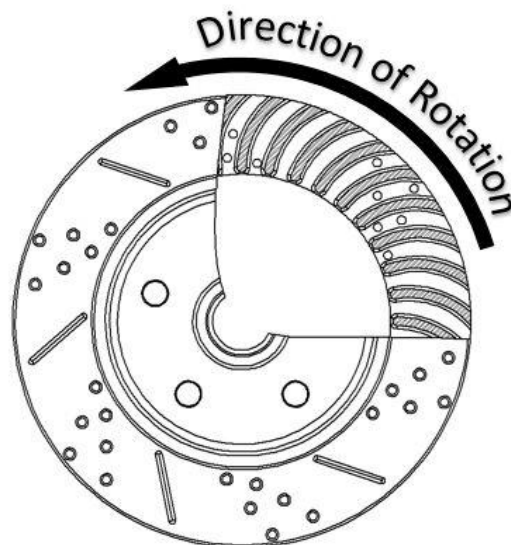

Figure 3 – Direction of Rotor Rotation
8. Install the bracket/park brake assembly using the original bolts that secured your original drum brake backing plate. The park brake assemblies are left and right specific. The driver side (LH) carries a part number engraved beginning with the numbers 671. The passenger side (RH) begins with the numbers 672. The park shoe actuator will be at the bottom with the brake shoe retainer at the top. Torque the fasteners to 45 ft/lbs.
10. Place the correct LH or RH rotor onto the axle flange. Use three lug nuts when installing to hold the rotor tight against the flange which will the rotor from moving to allow for caliper installation and to avoid scratching the rotor. When installing rotors, be sure to follow the direction of rotation indicated on the rotor hat area with either an arrow or with an "L" for driver side or an "R" for passenger side. Figure 3 below shows the direction for reference.